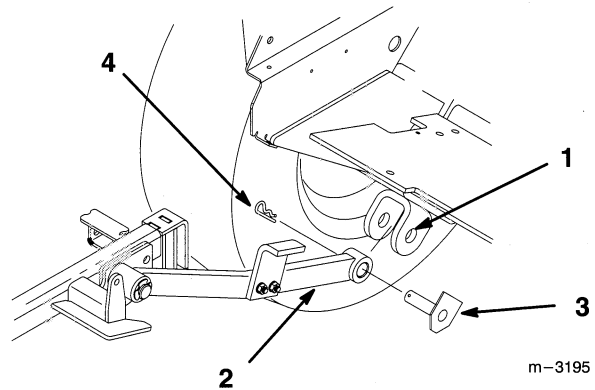

Figure 12
7. Lower carrier frame and remove hairpin cotters and pivot pin assemblies securing push arms to traction unit clevises (Fig. 12).